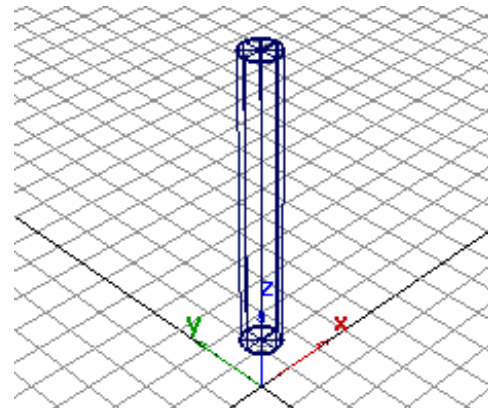

Figure 2-115 Base feature scaled
2. Enter **100, 100, 800** in the promptline and press ENTER; the base feature is scaled non-uniformly along the X, Y, and Z axes, as shown in Figure 2-115.